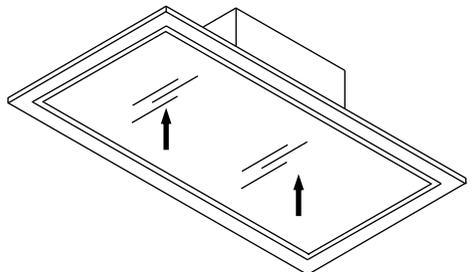

Fig 7
5. Push up at each side of the glass to shut (Fig 7).